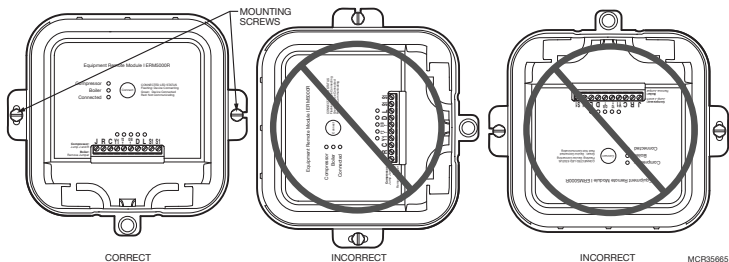

Fig. 11. Mounting orientation.
- Use two screws and wall anchors to attach the ERM to the exterior wall near the compressor. The location should be **at least 3 feet above ground** and **oriented with the two wire exits facing downward**. See Figs. 11 and 12.